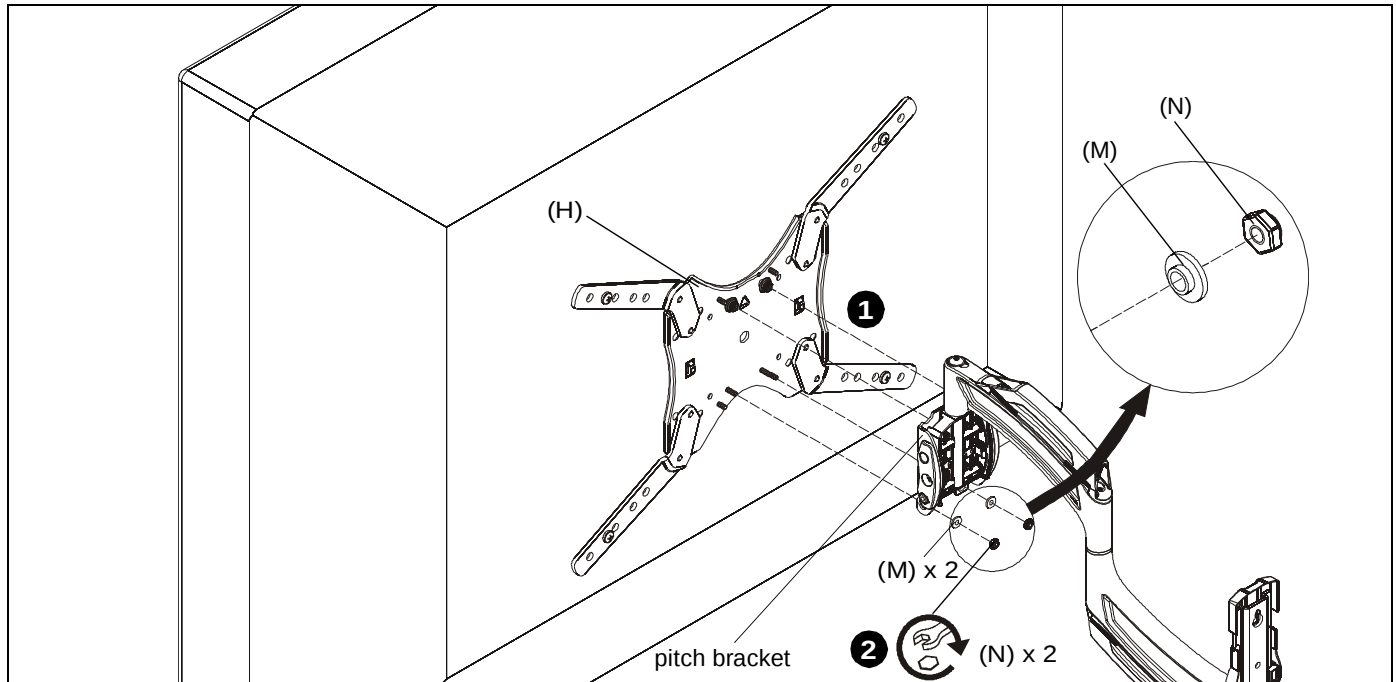

Figure 12
1. Hang faceplate (H) to main assembly (J) by placing two mounting buttons near top of faceplate over two teardrop grooves on top of main assembly's pitch bracket. (See Figure 12)
2. Secure faceplate to pitch bracket by installing two #10-24" flange nuts (N) and two roll flange spacers (M) onto screws on faceplate (H). (See Figure 12)
**IMPORTANT ! :** Make sure roll flange spacers (M) are installed with the flat side directly against the flange nuts (N)! (See Inset View on Figure 12)